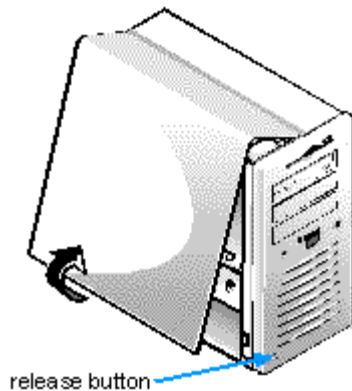

**Figure 8-1. Padlock Installed**
2. If you have installed a padlock through the padlock ring on the back panel (see Figure 8-1), remove the padlock.